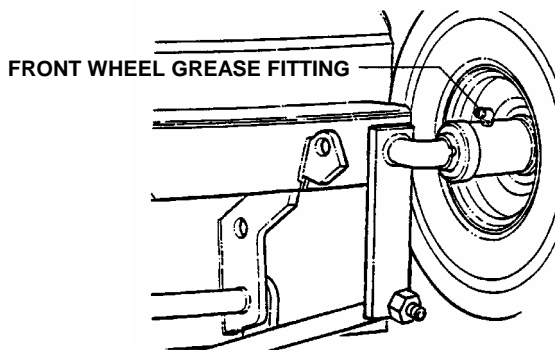

FIGURE 3.7
1. Lubricate front wheel bearings with five shots of general purpose grease, from grease gun. See Figure 3.7.